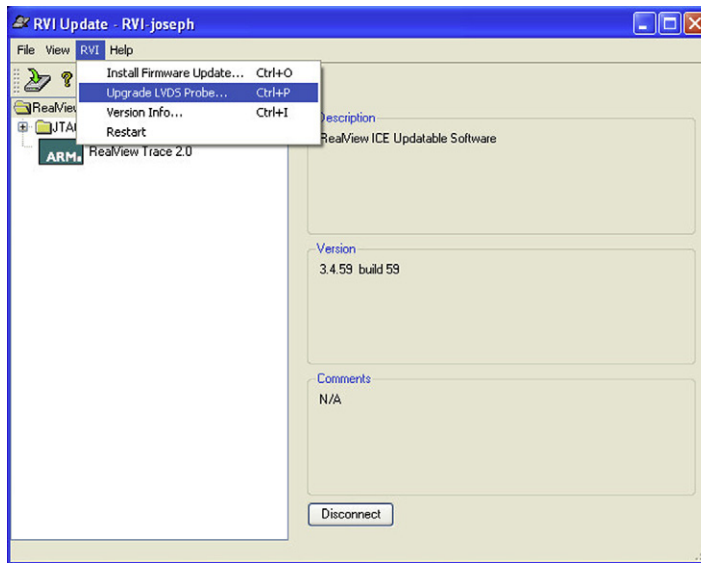

Figure 19.13:
- You also need to update the LVDS probe by selecting “Update LVDS probe” in the RealView ICE Update utility (Figure 19.13).